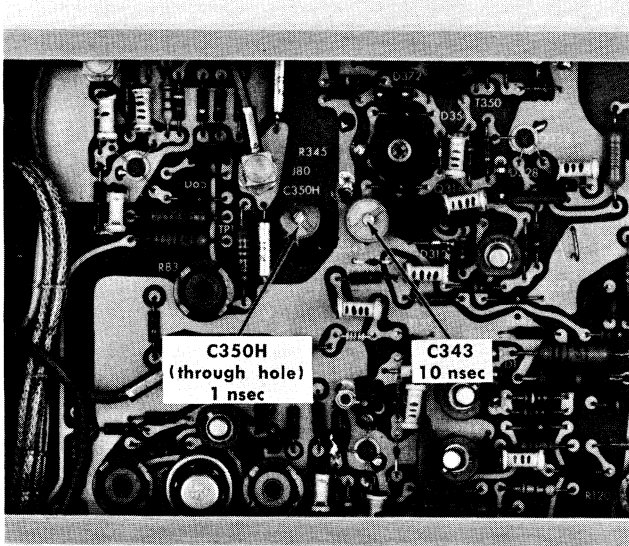

Fig. 5-24. 1-nsec and 10-nsec fast ramp timing adjustments.
- h. **Adjust** C343 (see Fig. 5-24) if the display is not correct.
- k. **Adjust** C350H (see Fig. 5-24) if the display is not correct.